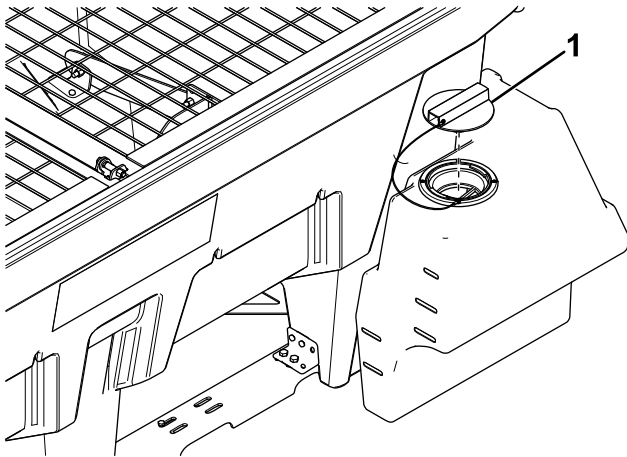

Figure 44
1. Clean around the tank cap (Figure 44).